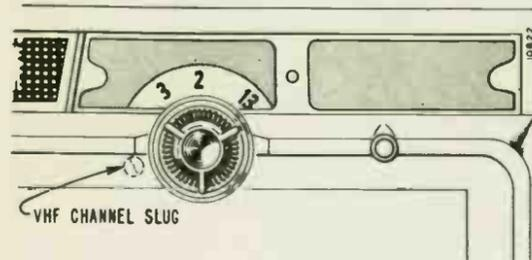

Figure 13. Front View of VHF Tuner in Console Models With Son-R Tuning. Escutcheon Plate Removed.
5. Insert a $\frac{1}{8}$ " blade, flexible non-metallic tool (Part No. 98A30-19) through the hole adjustment to Channel Selector shaft (see figures 13 and 14). For each channel in operation, carefully adjust the channel slug for best picture. (Note that this is not the point at which the sound is loudest.)